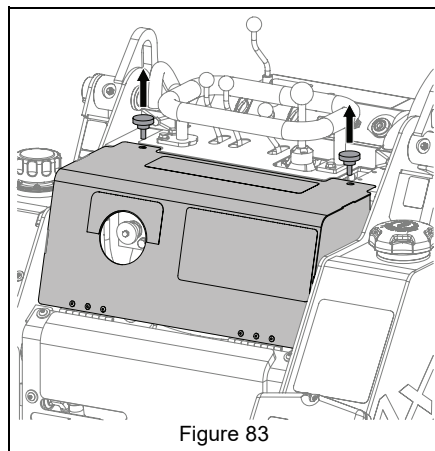

Figure 83
1. To open access panel, remove knobs from service access cover. Open service access cover to access electrical service items. See Figure 83 and See Figure 84.